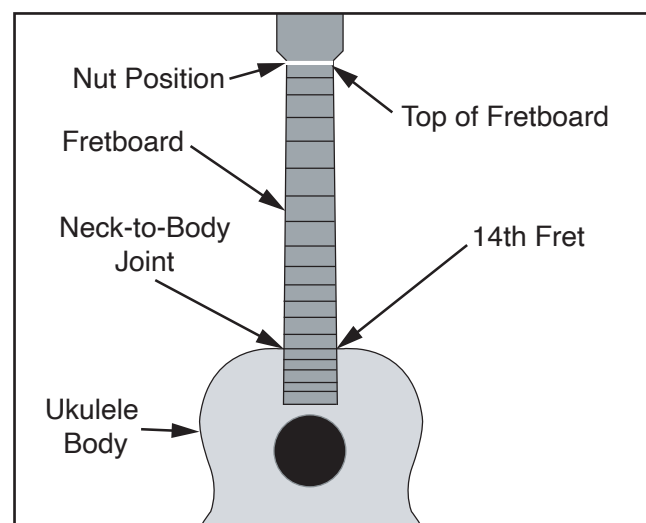

Figure 10. 14th fret position.
5. Make sure fretboard is centered across width of neck, and 14th fret is positioned over neck-to-body joint (see **Figure 10**).